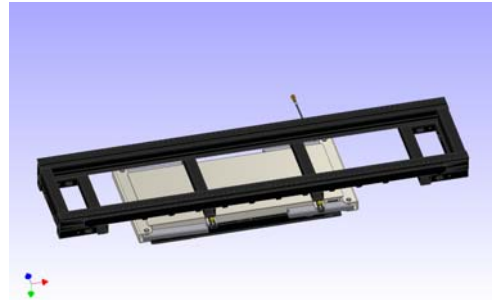

Figure 7
2. Position the Shop-Hopper over the PIT BOSS and align the square holes of the center tubes with the mounting clamps (see Figure 7).